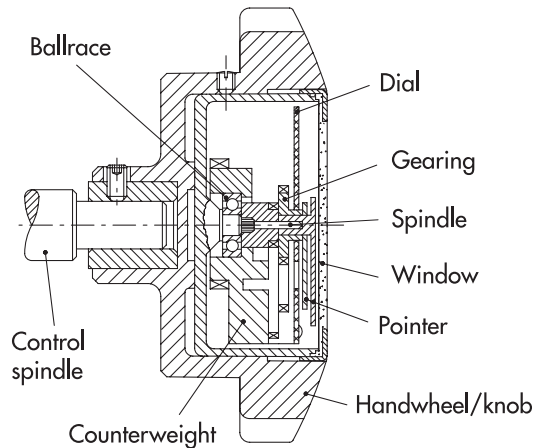

Fig.1
- 1.2 The movement is housed in a sealed case (fig. 1). It consists of a counterweight system, fitted on a precision ballrace, which rotates on a central spindle integral with the indicator case, fitted on the handwheel/knob (see table below). At the end of the spindle there is a red pointer, which rotates with the handwheel/knob. A series of gears with different ratios transmits the rotation of the spindle to a black pointer. On the counterweight is also fixed a graduated dial. If the indicator is fitted on spindles with horizontal position (or max 60° inclined) the dial is kept still by the gravity force and the pointers rotate over it when the handwheel/knob turns.